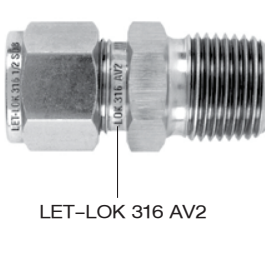

Fig. 4
**Straight Fittings:** (see Fig. 4)